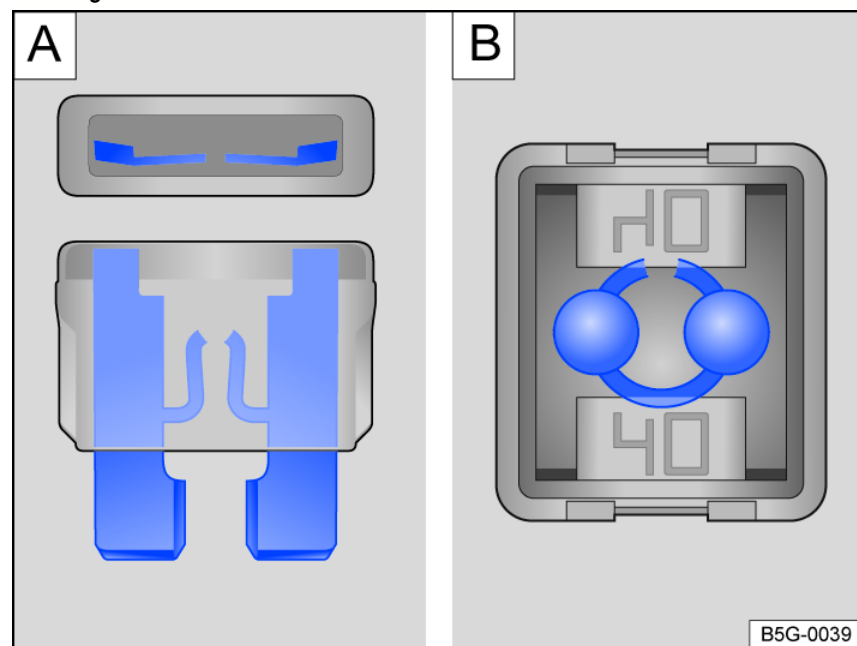

Fig. 158 Blown fuse (general example).
- A blown flat connector fuse (ATO®, MINI®) has metal strips that have burned through, which you can see through the transparent housing from above and from the side fig. 158 A.
- A blown block fuse (JCASE®) is recognizable by the melted metal strip seen through the transparent housing from above fig. 158 B.